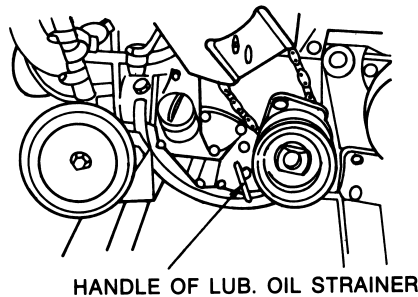

Fig. 24
- (1) Turn the handle which is on the forward lower end of the engine to both left and right several times to remove dirt from the lubricating oil strainer element (see Fig. 24).
- (2) Lubricate: